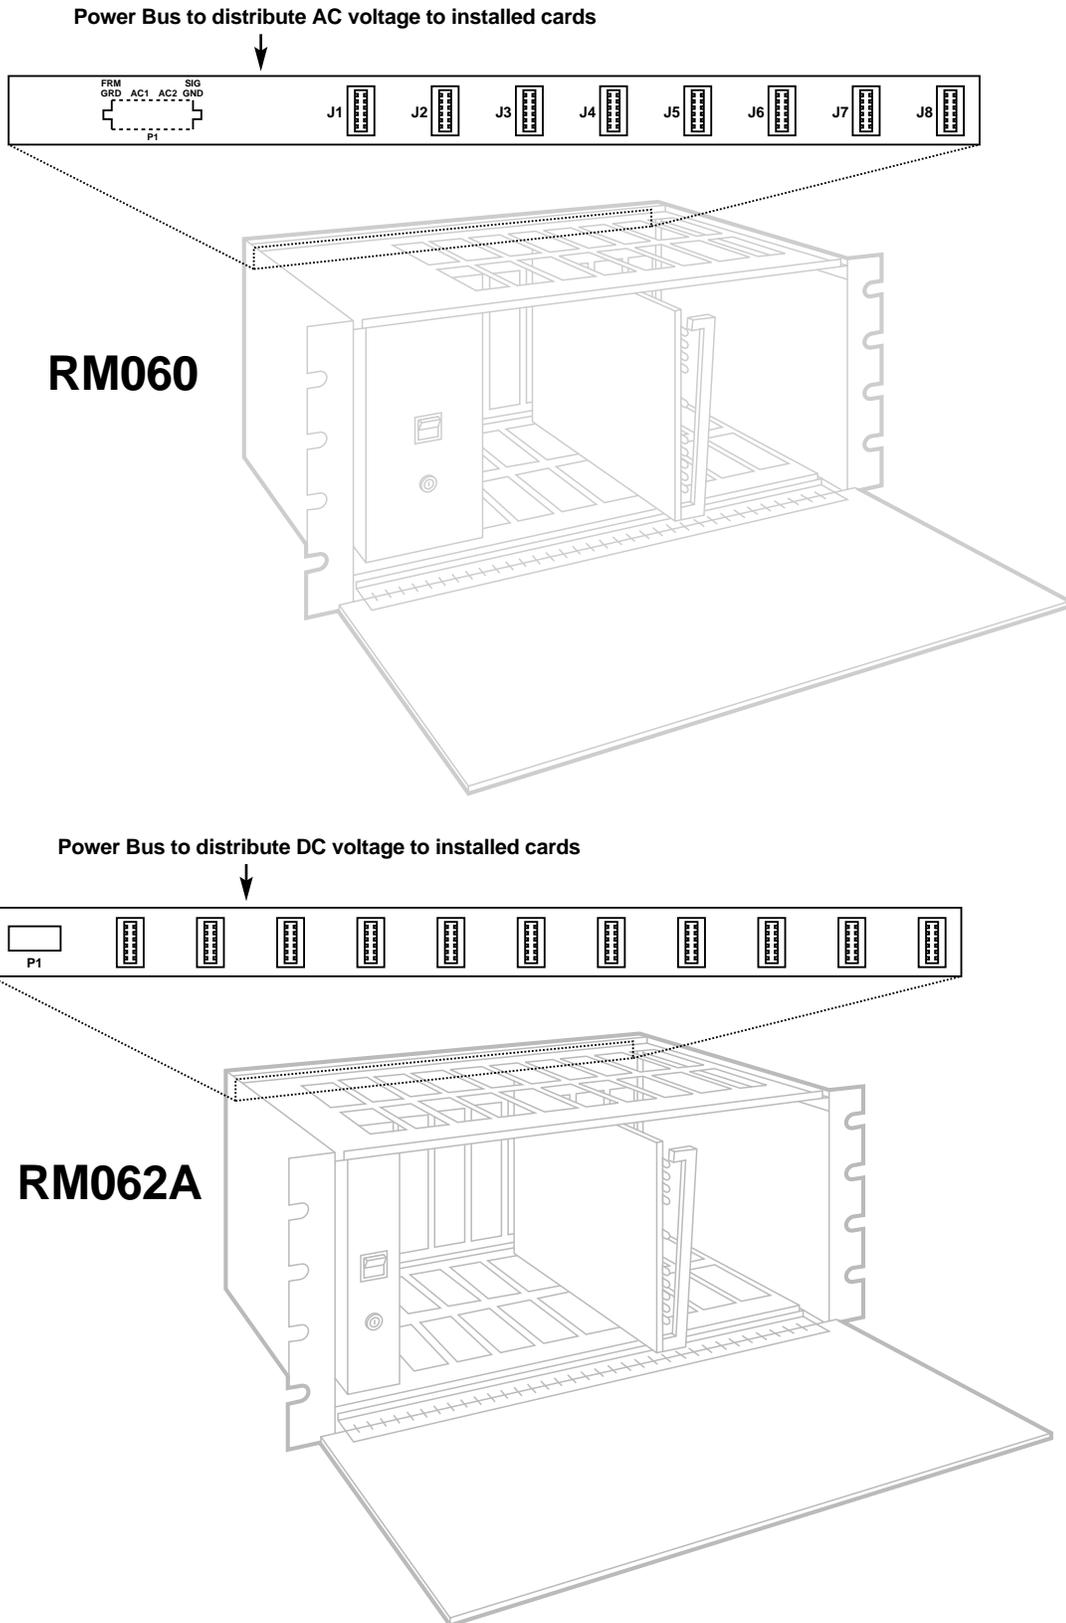
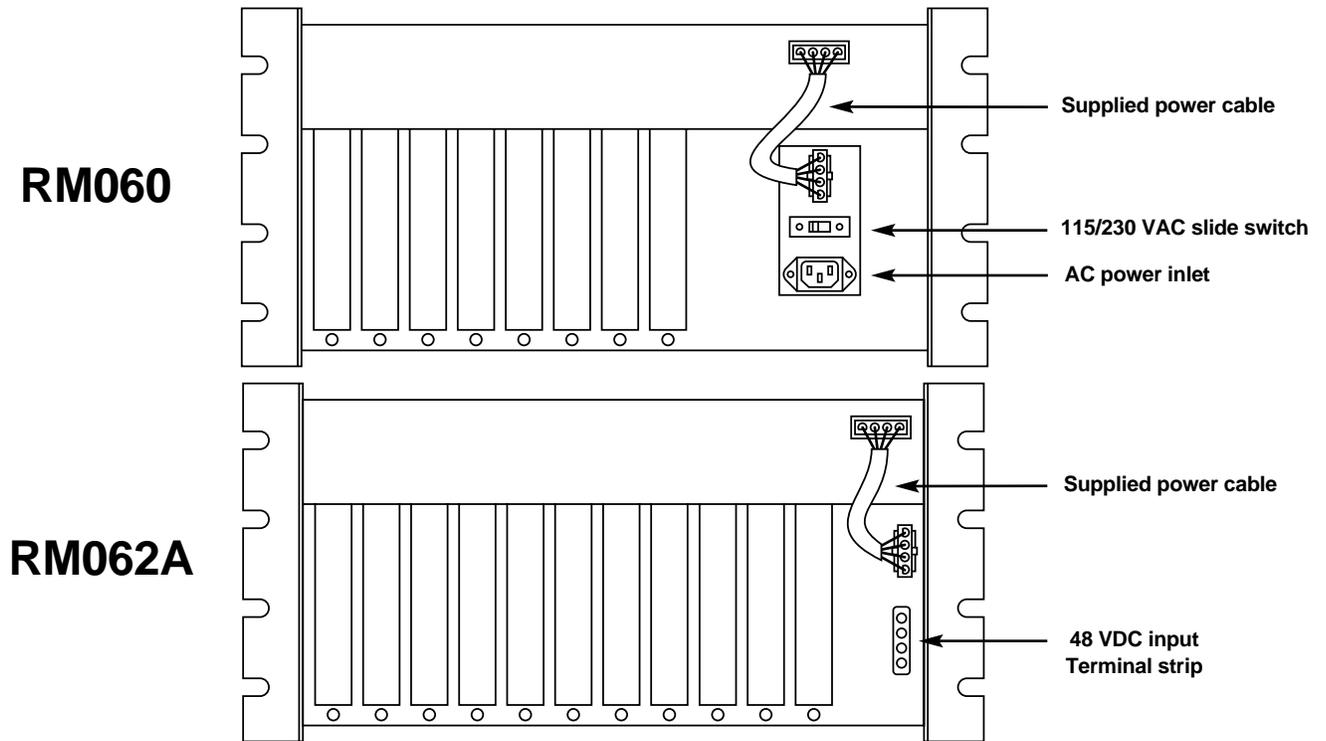
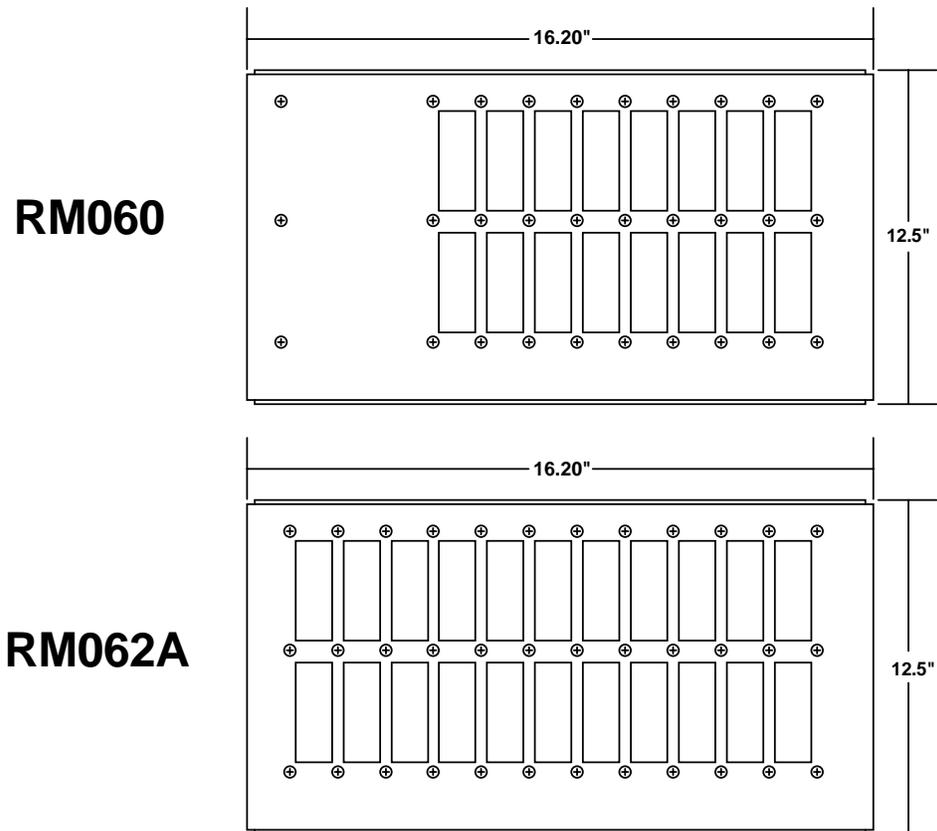
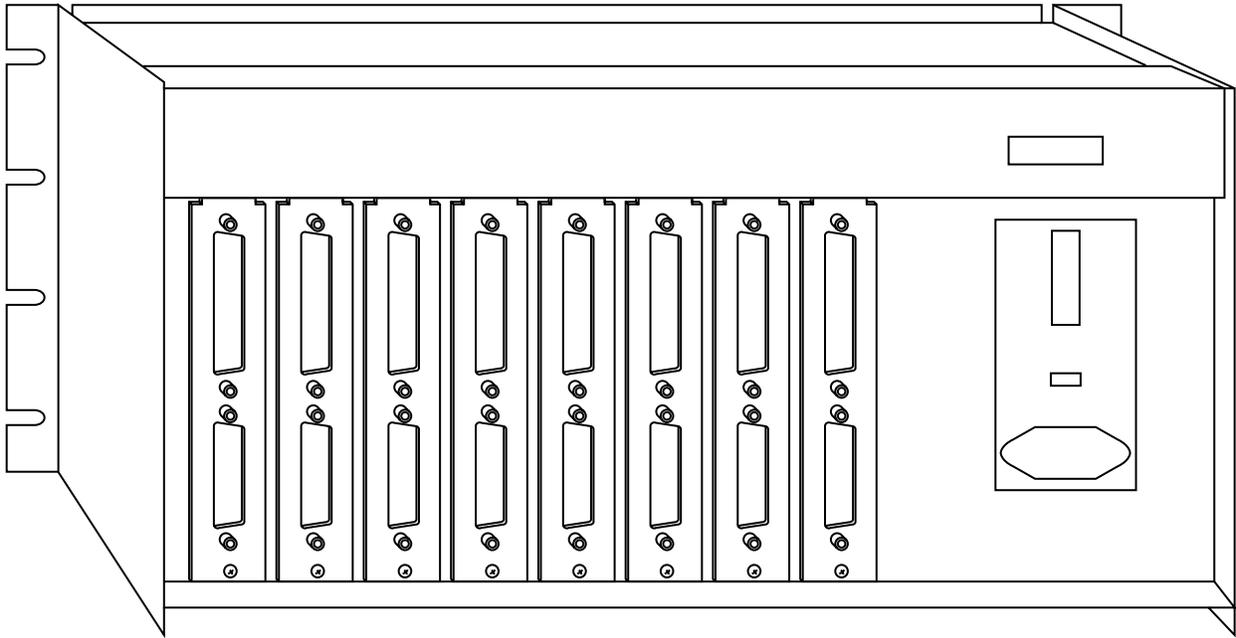

Fig. 2-1. Front views of the Racks with installed cards.
Fig. 2-2. Rear views of the Racks.
Fig. 2-3. Top views of the Racks.
**Fig. 3-1. Power cable.**
Figure 2-1 on the next page contains front views of the two Racks with installed cards, and Fig. 2-2 on page 6 shows the rear views of the Racks. Figure 2-3 on page 6 shows the top views of the Racks.
3. Run the included cable (see Figure 3-1 below) from the power supply to the power-distribution bus. Refer to Fig. 2-2 on page 6.